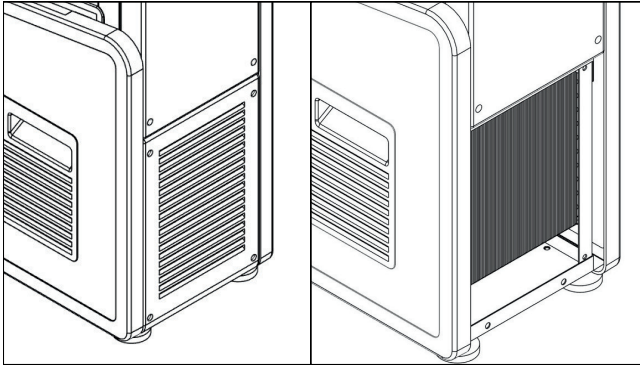

Figure 35
23.2. Carefully remove the screws of the lower rear cover, where the condenser is located, as shown in Figure 35.